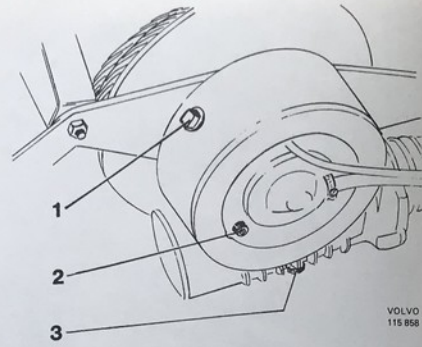

Fig. 92-28. Worm gear plugs
9. Fit the drain plug and remove the level plug (2) and the filler plug (1), see Fig. 92-28. Fill with oil. Concerning quantity and quality, see under "Data".
1. Drain the oil from the winch gear housing by removing the drain plug (3), see Fig. 92-28.